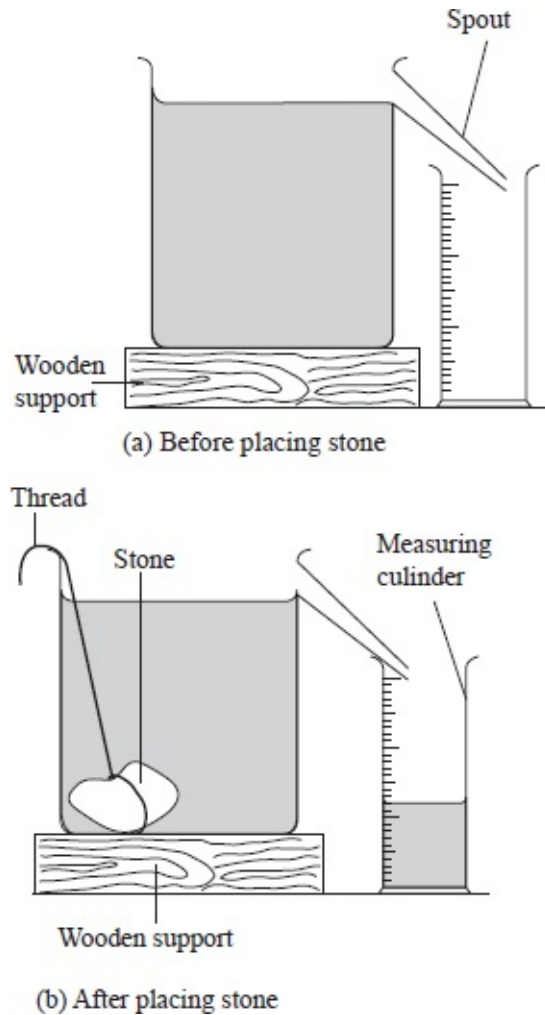

Fig. 2.14: Use of Eureka can for measuring volume
- Fill the Eureka can with water until it flows out of the spout, see figure 2.14 (a). Once the flow has stopped, place a measuring cylinder under the spout of the can.